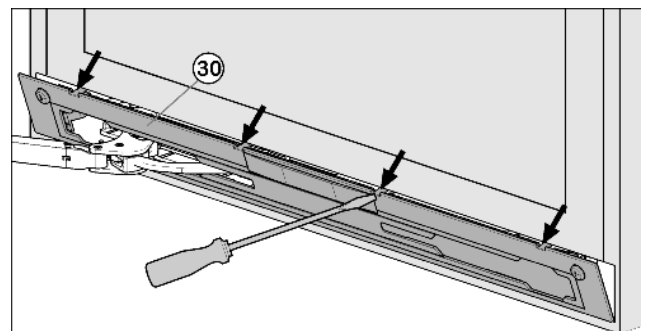

Fig. 11
- ▶ Disengage and remove the faceplate *Fig. 11 (30)* using a flat-blade screwdriver.